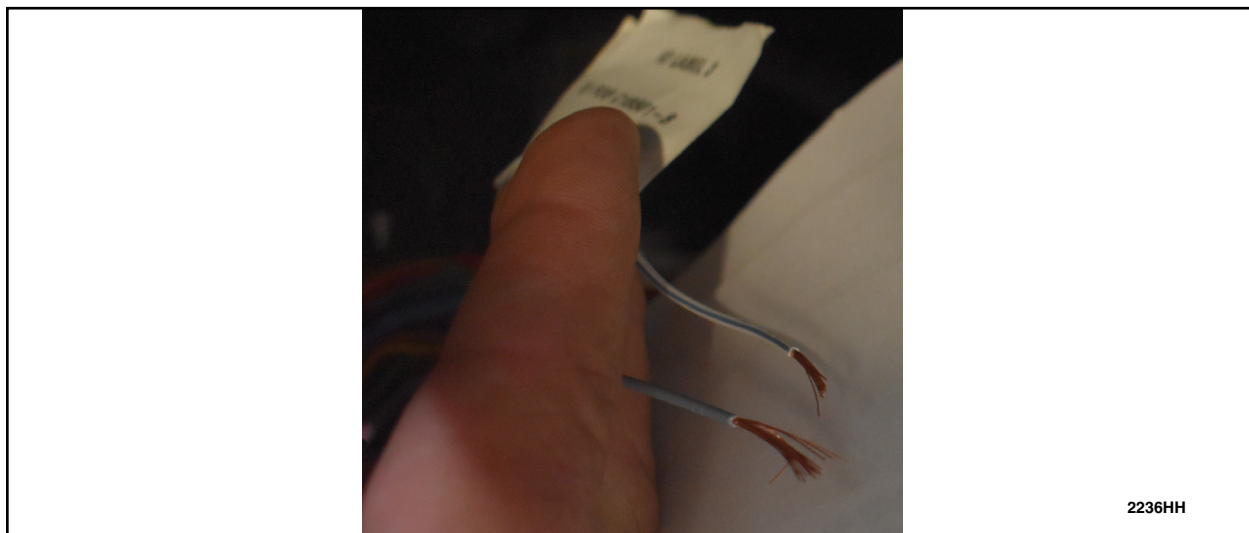

FIGURE 40
46. Strip 1" of insulation from the gray wire and white/blue wire, and terminal end. Put dual wall heat shrink tubing over gray wire and white/blue wire. See Figure 40.